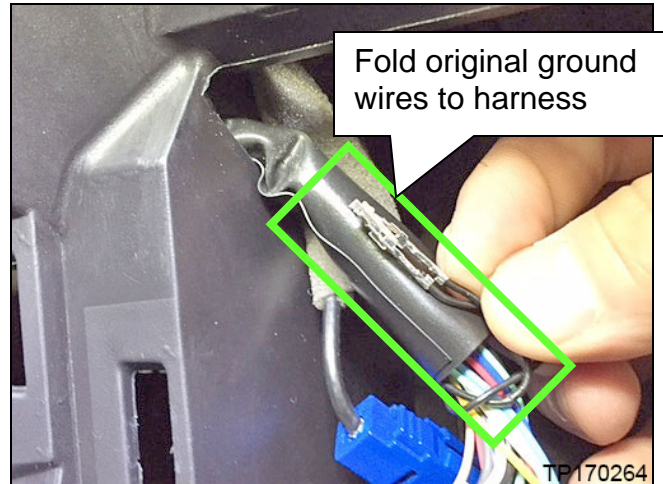

Figure 25
21. Fold the original ground wires and the two (2) wires removed from the harness connector in step 7 to the harness as shown in Figure 25.